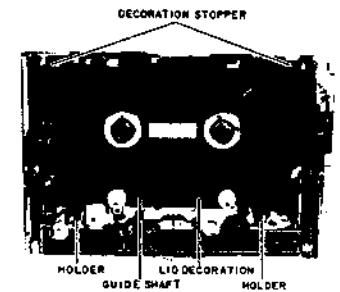

Fig. 3-3
- 5) Next, while pressing up slightly on the decoration stopper on the upper right and left sides, move the lid decoration forward and down, disengaging it from the holders and guide shafts on the bottom left and right (Refer to Fig. 3-3.)